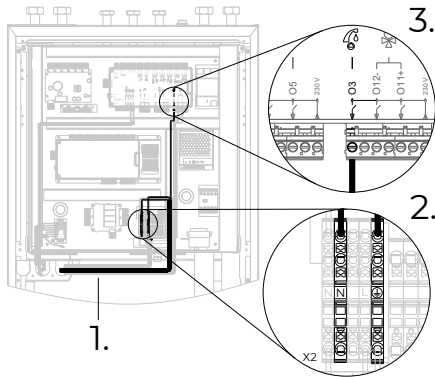

Figure 23: Connecting the power cable of the circulation pump to circulate DHW
1. Thread the power cable of the circulation pump for circulating DHW to the electrical box through the cable channel on the right side (Figure 23).